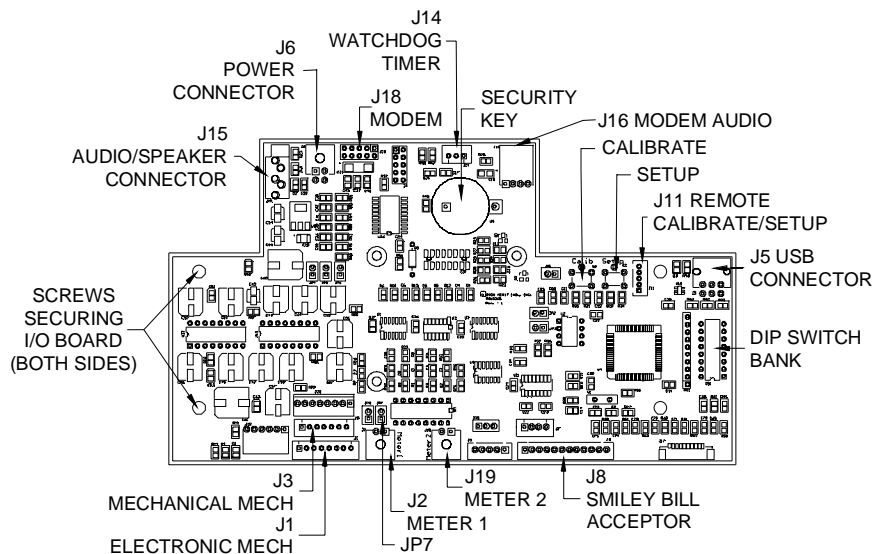

FIGURE 31 - FORCE I/O BOARD DRAWING
44. Connect the speaker/audio plug to J15 on the I/O board. See Figure 31.
45. Locate the security key socket on the I/O board. See Figure 31.
51. Locate DIP switch #6 on the I/O board (see Figure 31) and set it to the down position. After setting the DIP switch, turn the power switch of the game to ON. This will activate the hardware auto-detect and establish the correct hardware configuration of the game. Follow the directions on the screen.